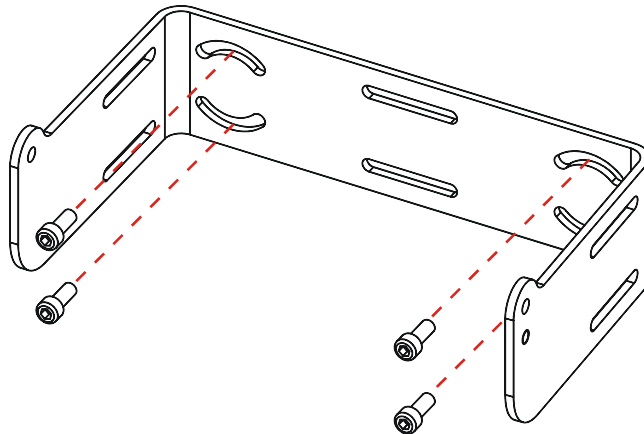

Figure 10 - Mounting the bracket on the reading station frame
- 1 Mount the bracket on the reading station frame: the slots on the bracket will help obtain the best positioning. When working in environments characterized by strong vibrations, set the screws as close as possible to the bracket edges, see Figure 10.